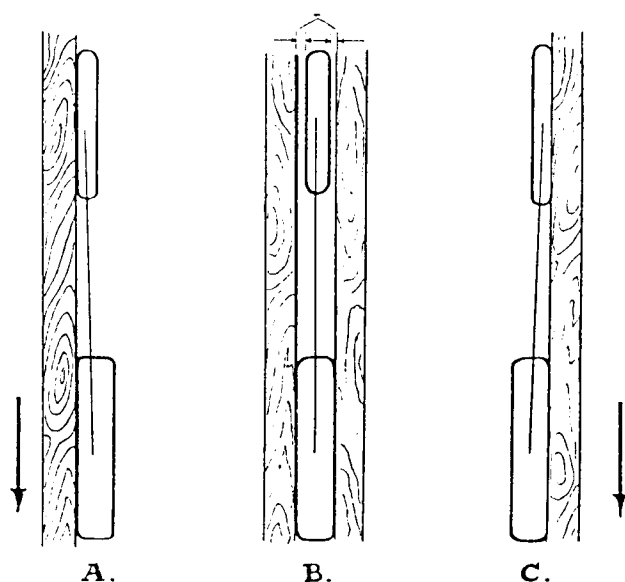

FIG. F.18. *Checking alignment.*
If the front tyre is of smaller section then it should be as drawing (B) Fig. F.18.